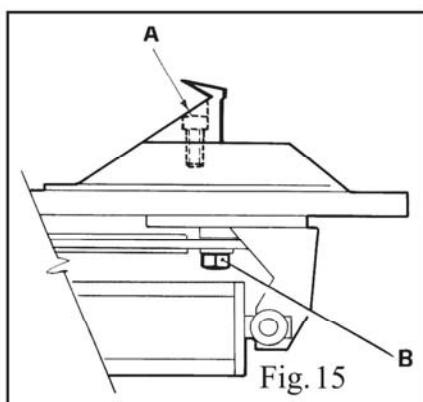

Fig. 15
- After the first 20 days of work, retighten the clamp tightening screws on the turntable slides (Fig. 15).